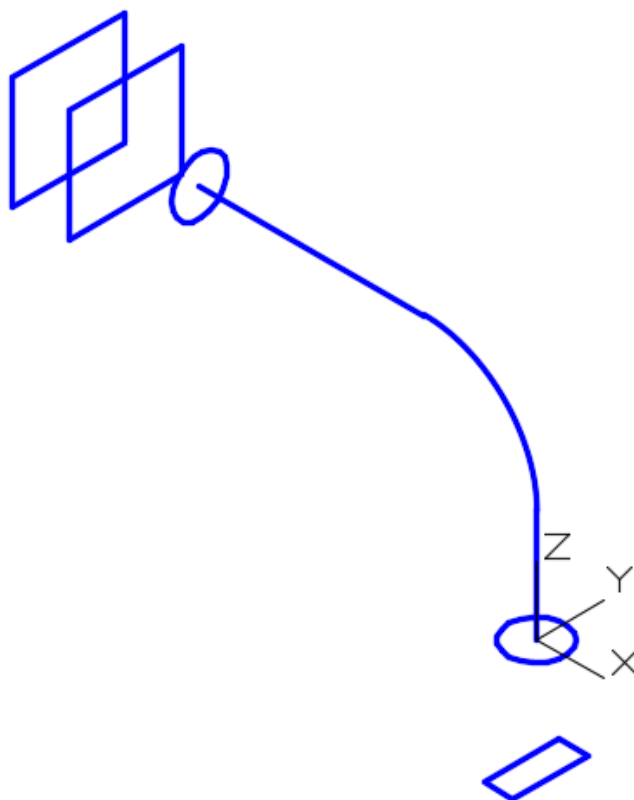

Figure Step 16
Step 16 Set the current view to SE Isometric. (Figure Step 16)